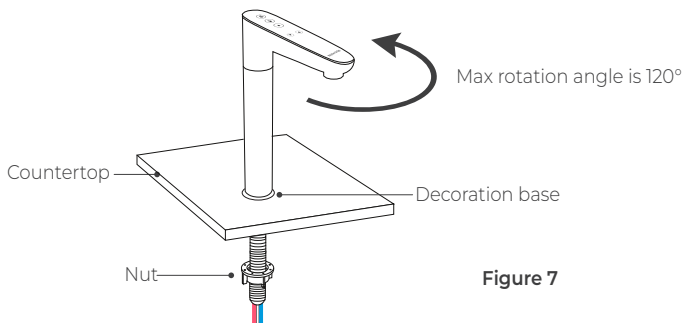

Figure 7
b. Under the sink, slip on the nut and tighten it up (**Figure 7**).